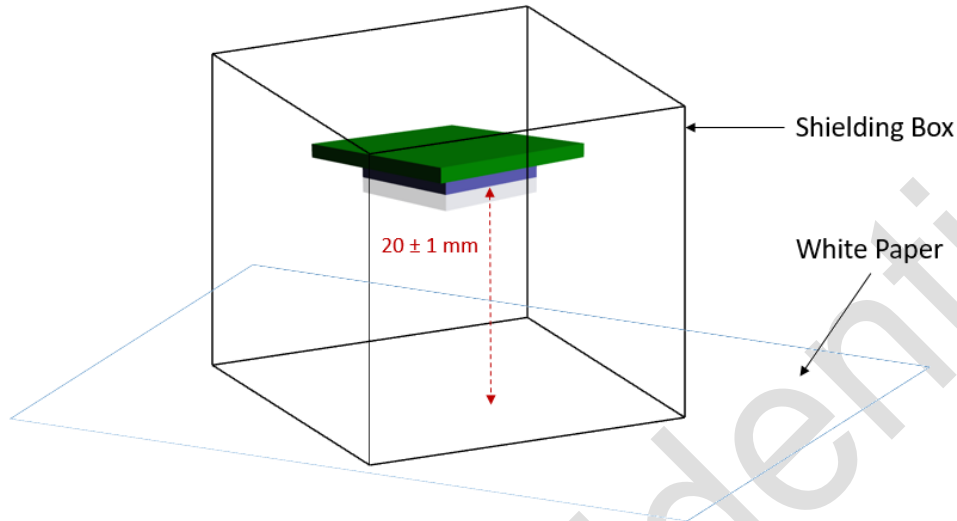

Figure 2. Recommended Test Set-up
1. Place the module on a normal white paper, inside a non-reflective black color shielding box (Refer to Figure 2).